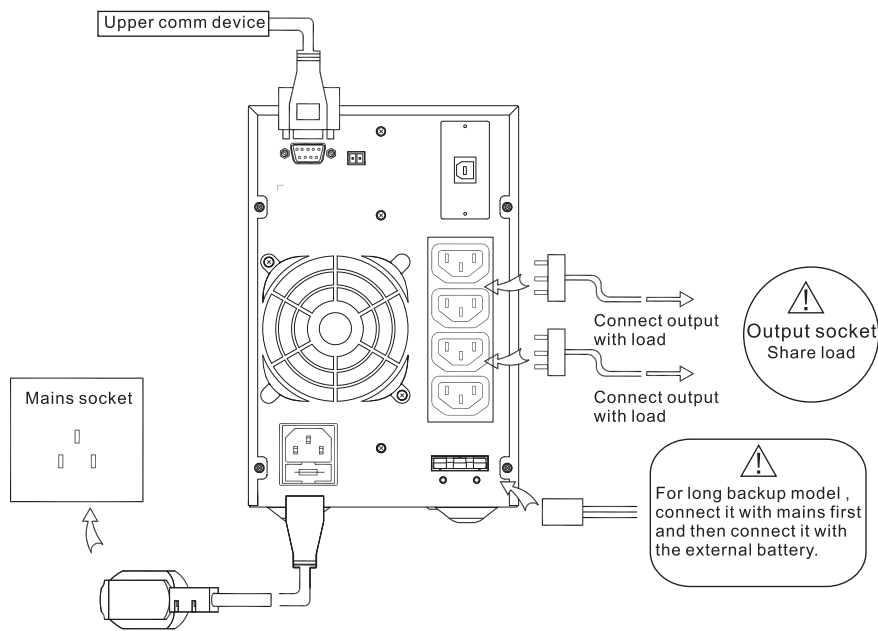

Figure 3-4 Wiring diagram of 1kVA(L)
In the 1kVA(L) series UPS, the input and output adopt sockets. When using it, please connect one end of the input power wire with input socket and then connect the other end of the input power wire with mains socket. Besides, connect the load power wire with the output socket. The wiring for the input and output of the 1kVA(L) series UPS is as shown in Figure3-4.